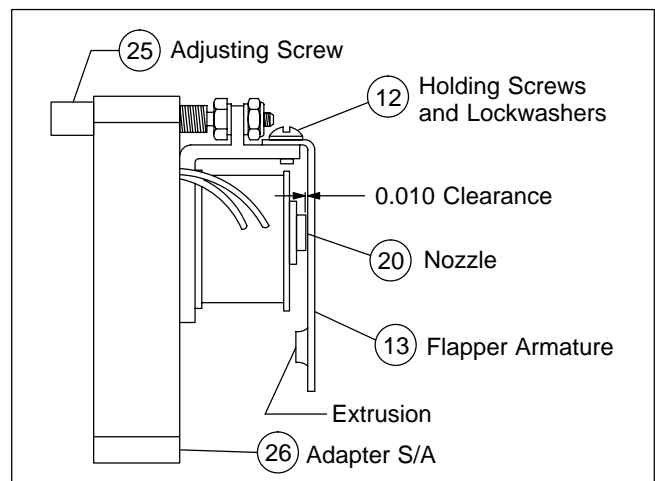

Figure 3. Pilot Stage Servo Valve Adjustment Locations
*Be careful when installing flapper armature (13). The securing screws (12) extend thru the frame (22) and could break the insulation on the coil. See Figure 3.*
f. Place a 0.010 shim between the flapper armature (13) and the nozzle (20) while tightening the two holding screws and lockwashers (12). See Figure 3.